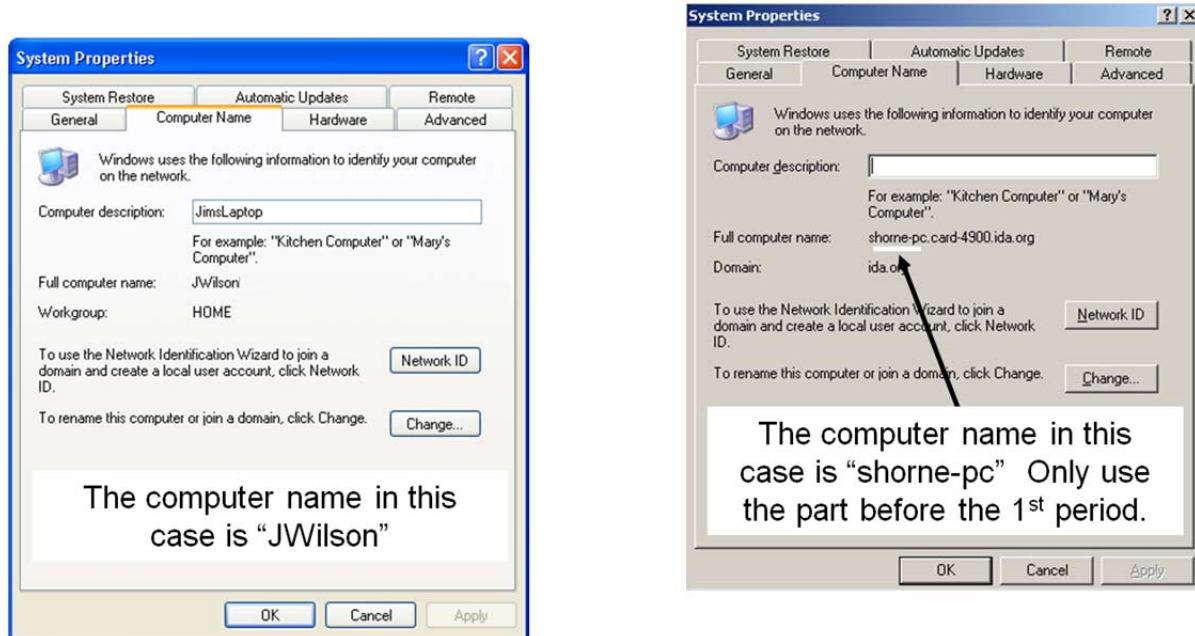

Figure III-21. System Properties Windows
- b. Click on the Computer Name tab on the System Properties window (Figure III-21).